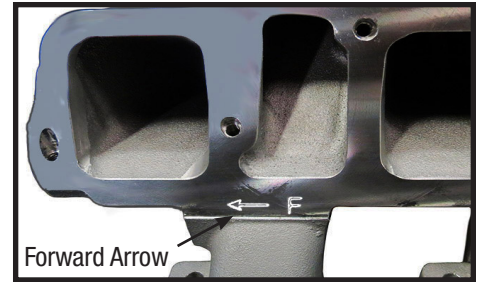

Figure 2 - Forward Arrow on the Flanges
2. Determine the front end of the manifold by locating the forward arrows marked on each side of the manifold flanges as shown in **Figure 2**. This is important as the right rear port is lower than the other ports for cowl clearance. Fully clean the cylinder head intake flanges and lower the manifold base onto the engine with the forward arrows facing towards the front end of the engine. As you position the base of the manifold onto the cylinder heads, connect the injector connectors to the appropriate fuel injectors. **(NOTE: Depending on the wire harness, injection connector extension wires may need to be used to simplify the installation).**